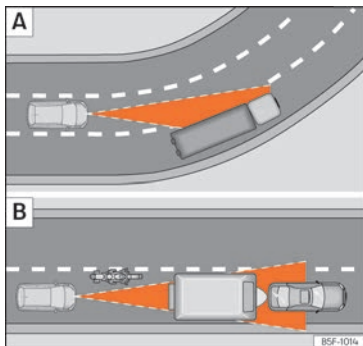

Fig. 183 [A] Vehicle on a bend. [B] Motorcyclist ahead, out of range of the radar sensor.
The ACC may not detect the vehicle in front on a curve, or may regulate the distance from vehicles in other lanes » **Fig. 183 [A]**.
- Vehicles that are not aligned while driving or that are outside the sensor's detection area, such as motorcycles » **Fig. 183 [B]**